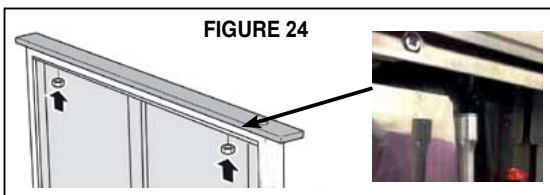

FIGURE 24
- Connect the top strip to the hood with nuts underneath the top strip to the screws on the right and left end to secure the top strip to the hood. See FIGURE 24, use a size 7 mm nut driver tool.